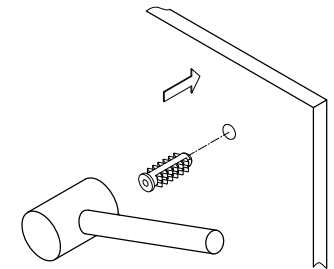

Fig. 2
- Step 3. Insert anchors into the holes until flush with wall (Fig. 2).